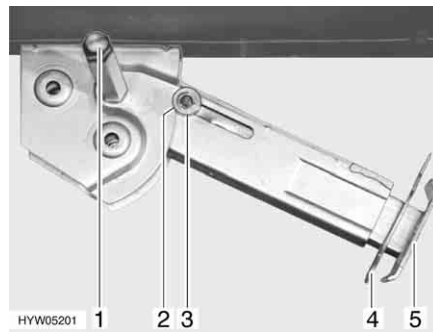

Fig. 32 Steady leg
- Place the socket spanner on the hexagon nut (Fig. 32,1) and rotate until the steady leg is in a perpendicular downward position.
- Remove the splint (Fig. 32,4) out of the support foot extension (Fig. 32,5).
- Place the socket spanner on the hexagon nut (Fig. 32,1) and rotate until the steady leg is clear of the ground.
- Push in the support foot extension (Fig. 32,5) and insert the splint (Fig. 32,4) in the drilled hole in the support foot extension.
- Rotate the hexagonal nut (Fig. 32,1) with the socket spanner until the steady leg has swung upwards and the guide disc (Fig. 32,3) has completely retracted into the notch (Fig. 32,2).